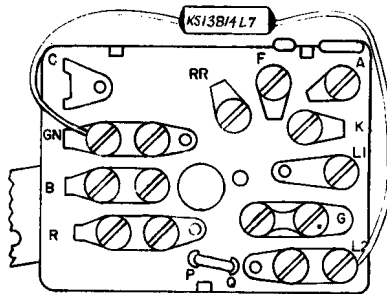

FIGURE 13. 500 and 554 Type Telephone Set,
- 7.04 The KS-13814, List 7 *capacitor* is installed in the 500 and 554 type telephone sets as shown in Figure 13. It is connected across the L2 and GN terminals of the 425 network as shown. Place the capacitor against the side of the network nearest the ringer. Cover the exposed portions of the capacitor leads with tubular insulation.